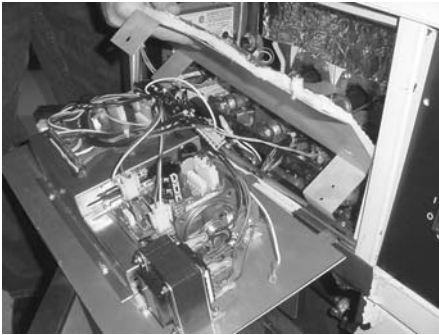

Figure 2-23
2. Remove the control panel and heat shield from control area. Figure 2-23.